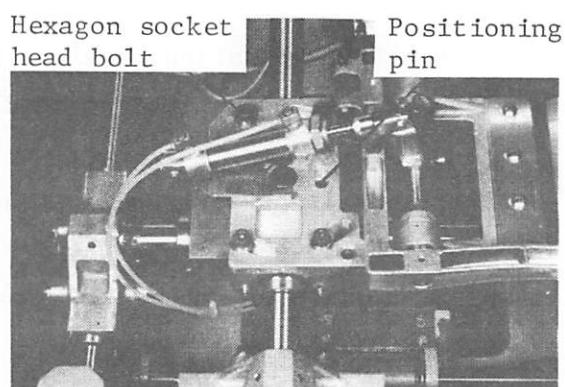

Fig. 4.7
- 4.8 Turn the work holder until it strikes the positioning pin and fully tighten hexagon socket head bolts (Fig. 4.7).